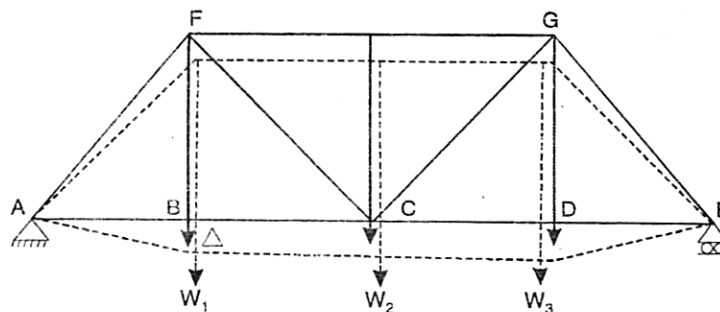

Fig. 1.1
Step 1. Suppose we want to determine the displacement at B of the truss in Fig. 1.1 due to the load system $W_1, W_2, W_3 = \{W\}$. We have to first solve for the internal forces $F_1, F_2, F_3, \dots, F_n = \{F\}$ in the members due to $\{W\}$. This is a question of statics. We know that every member will have an additional elongation (or shortening) of $F_1/AE, F_2/AE, F_3/AE, \dots$ due to F_1, F_2, F_3, \dots . These member displacements will increase from 0 to $\{F/AE\}$ as the internal forces increase from zero to $\{F\}$.